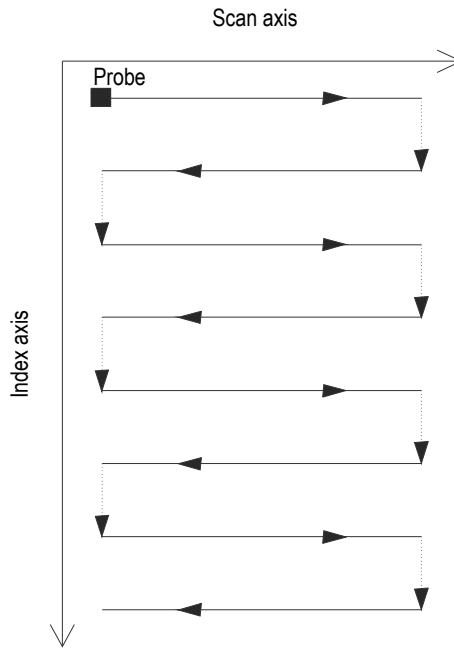

Figure 5-4 Bidirectional surface scan
A surface scan uses two axes: (1) the scan axis, which is the mechanical axis of the scanning lines, and (2) the index axis, which is the mechanical axis of movement between the scanning lines. At the end of each scan along the scan axis, an increment is added to the position along the index axis. Data acquisition for bidirectional scans is carried out in both the forward and backward directions along the scan axis, as shown in Figure 5-4 on page 158.